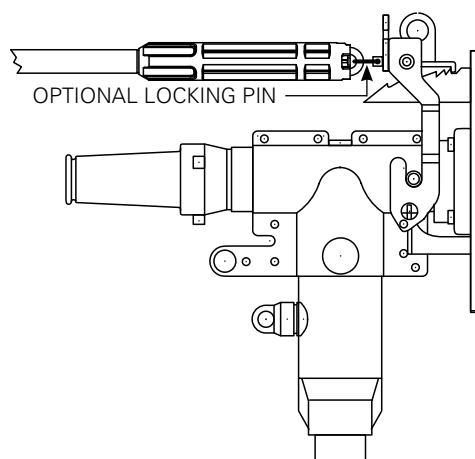

Figure 18c. Thread optional locking pin.
- If present, thread optional locking pin with clampstick to secure connection. (Refer to Figure 18c.)